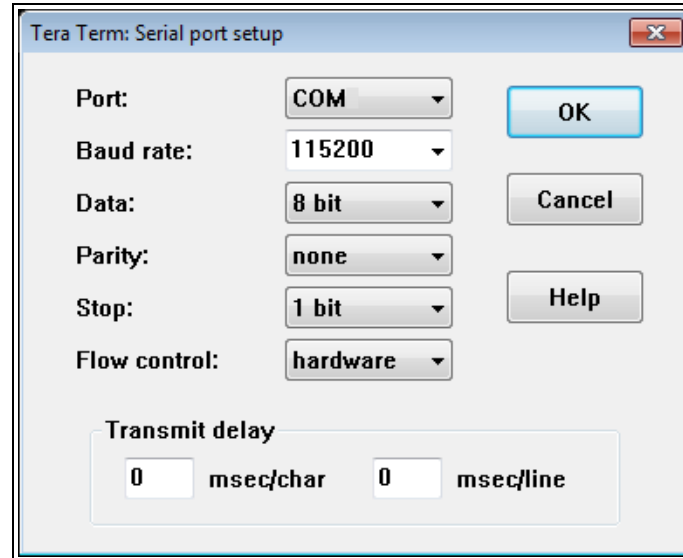

Figure 34: Tera Term: Serial Port Setup dialog box with Default Z9-C or Z9-T Settings
7. **Important:** Verify, and change if required, the **Tera Term** serial port settings (except the **Port** setting) of the connected Z9-C or Z9-T so the settings are the same as the defaults shown in Figure 34.